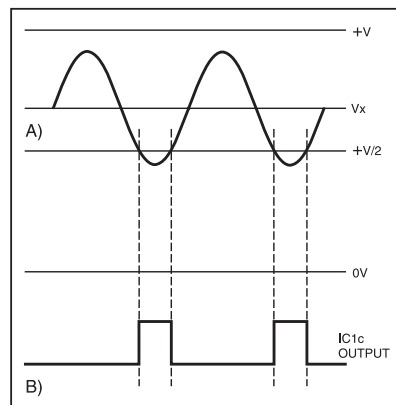

Fig.4. Switching waveforms.
This can be set so that when no metal is present the output from IC1c only switches on the negative peaks of the signal as shown in Fig.4. This shows the input to IC1c at (A), where V_x is the bias voltage from VR1, with the output from IC1c at (B).